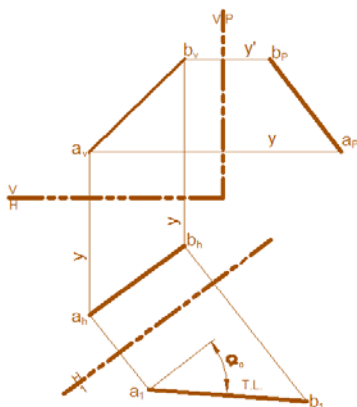

Fig. 2.11 Slope of a line
seen in a view where the line appears in its true length and the horizontal plane at the same time appears as an edge view. Therefore, true slope of a line is measured from an elevation plane(1) that contains the true length projection of a line. It should be recalled that an elevation plane is any plane that is perpendicular to the horizontal projection plane. Slope of the oblique line AB in fig.2.11 is α° up from A or simply α° clockwise. This is because point A is more closer to the horizontal plane than point B.